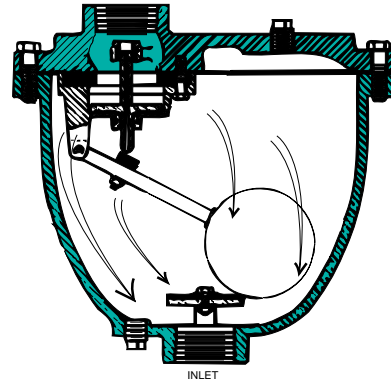

Figure 4. Air Enters During Pipeline Draining
- When the system is drained, the plug will reopen allowing air to rapidly re-enter the piping system. See Figure 4.
Air/Vacuum Valves may be factory or field equipped with an arrestor check on the inlet port as shown in Figure 4. The function of the arrestor check is to protect the air/vacuum valve from slam shock, resulting from instant pipeline flow stoppage.